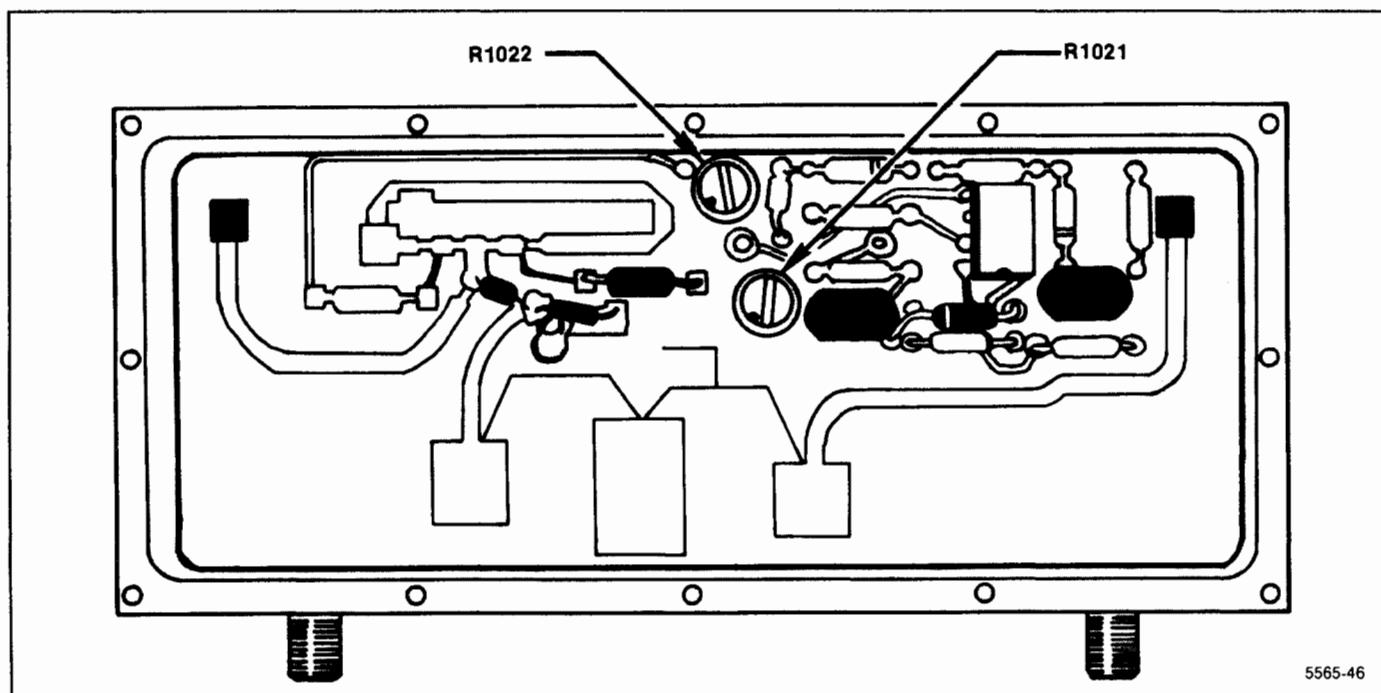

Figure 6-11. 2072 MHz Converter bias adjustments.
**Mixer**—To gain access to the Bias adjustments, remove the assembly from its mounting; then remove the mounting plate on the bottom of the assembly. Reconnect the Mixer to the input/output lines, using the same cables (cable length of semi rigid cables is critical). Apply the CAL OUT signal to the RF INPUT and tune a marker to center screen. Simultaneously adjust both bias potentiometers, R1021 and R1022, (see Figure 6-11) for maximum signal amplitude.